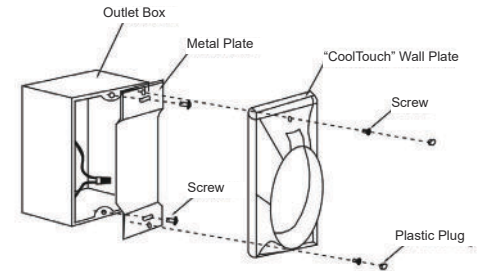

Fig. 23
**Step 2.** Install the metal plate and “CoolTouch” wall plate to the existing wall outlet box with 4 screws provided. Then place the two plastic plugs into the wall plate. (Fig. 23)